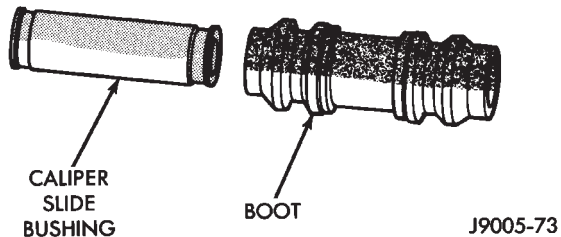

Fig. 69 Mounting Bolt Bushing And Boot
(7) Remove caliper mounting bolt bushings and boots (Fig. 69).